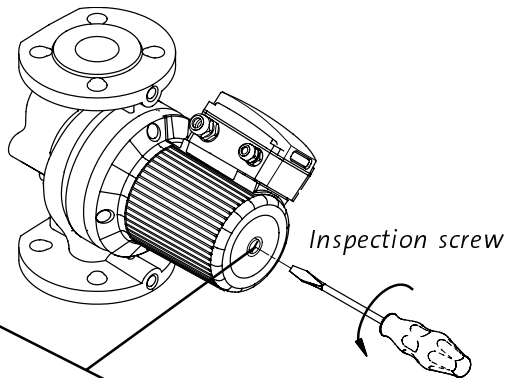

Fig.12 Vent Plug
**WARNING:** If the vent screw is to be loosened, care should be taken to ensure that the escaping scalding hot liquid does not cause personal injury or damage to components (see Fig. 12).
**AVERTISSEMENT:** S'il faut desserrer la vis de purge, prendre les mesures nécessaires pour que le liquide brûlant qui s'échappe ne cause pas de blessures ou de dommages aux composants (voir la figure 12).
- Insert a small, flat-blade screwdriver into the slot in the end of the motor shaft (see Fig.12). Rotate the shaft with the screwdriver to make sure it does so freely.